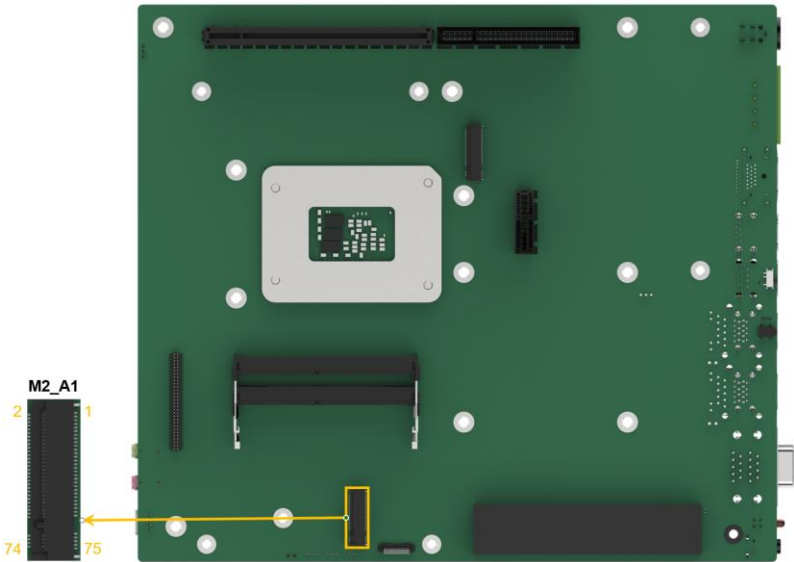

Figure 4-22: M.2 A-key Slot Location
- CN Location: See Figure 4-22